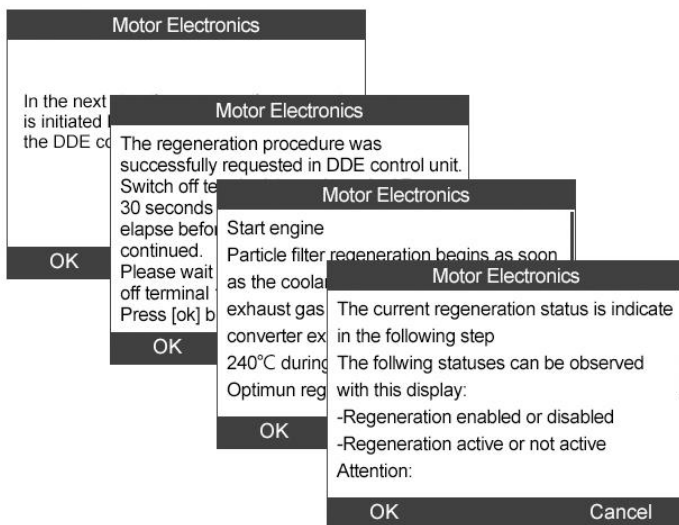
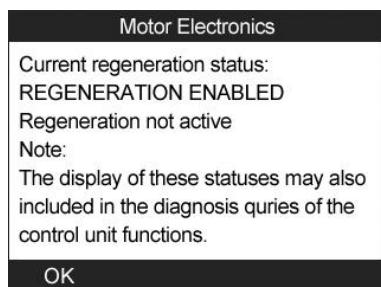

Figure 11.24
Figure 11.25
- 4) A series of instruction screens appears for users to perform the particle filter regeneration step by step. Follow the onscreen instructions and press the **OK** button.(Figure 11.24) Do this until the tool reads off the regeneration status as below.(Figure 11.25)